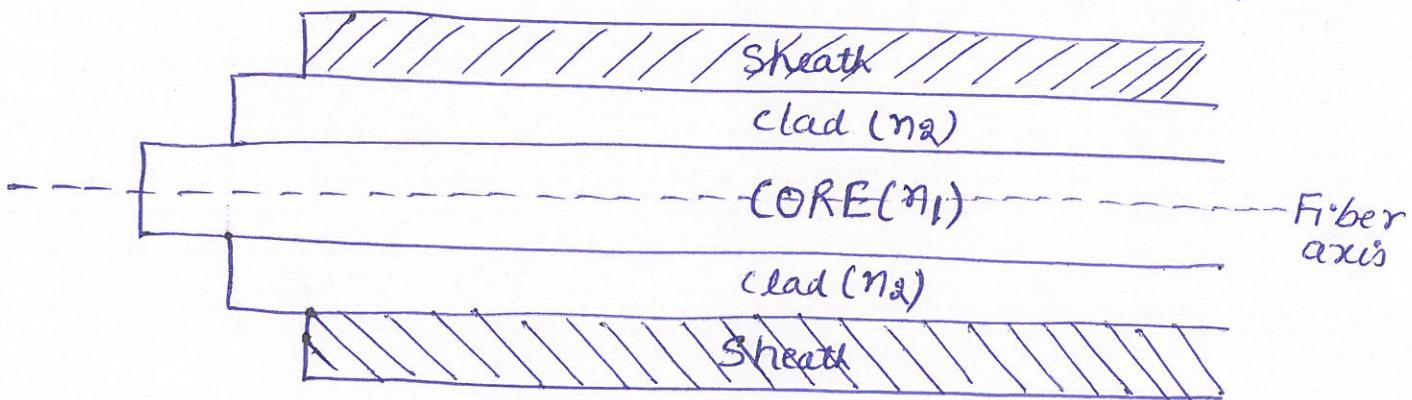
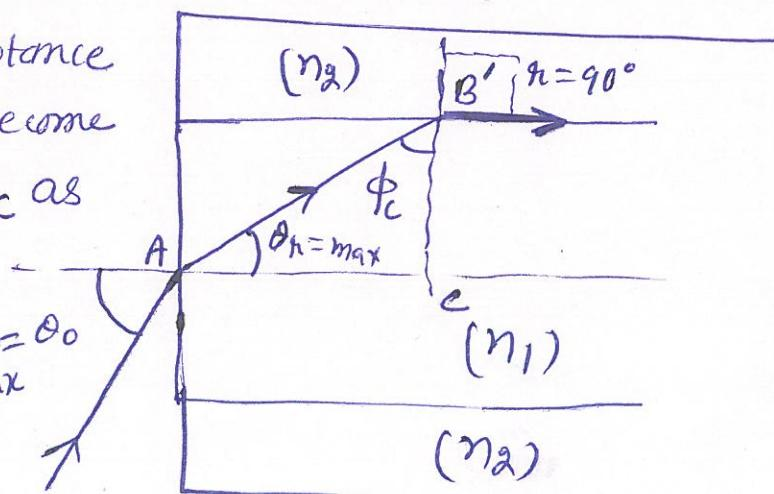

Fig. 1
Fig 2.
to another! The basic diagram of an optical fiber is shown in figure 1 above. It contains three co-axial cylindrical layers known as core, clad and sheath (or buffer jacket).
Consider an arbitrary ray of light make angle θ_i with axis of optical fiber, at input as shown in Fig 1. On entering the
Since ray of light shown in fig 1. arbitrary, therefore by increasing its value, we may reach maximum value of θ_{i1} denoted by symbol θ_{i1} , called acceptance angle, for which ϕ will become minimum, that is ϕ_c as shown in fig 2.
In Fig. 1. shown here, three rays of light are entering in optical fiber such that all are parallel to each other. All these three rays travel along ~~parallel~~ identical paths,
In the previous article, fiber shown in fig.1 is a SMF, because all three rays of light are entering in fiber at same angle with respect to axis. In general number of rays in SMF can be infinitely large, but all of these will enter in fiber as a beam of parallel rays.
In fig.2. of previous article, two modes of light are propagating because there are two distinct angles, at which rays of light are entering in the fiber. Thus fiber shown in this figure is MMF. Note that in MMF, the total number of modes can be very large instead of just two as shown in fig.2.
total number of distinct angles made by rays of light with axis at the input of fiber. It is also clear from fig. 1 & fig. 2. of previous article that chances of interference between light rays (waves actually) during propagation are very ~~to~~ large in MMF. During interference, the information being carried out by these light waves may be lost or may get distorted. Larger is the distance travelled in fiber, more will be chances of loss of ~~int~~ information due to interference.
Figure 1. Shown below gives variation of refractive index of fiber as a function of distance (r) from the axis of fiber. Such a graph is called index profile of fibers.
6. Since speed of all light rays is same (because of single frequency of carrier) and path length of rays is different for different angles/paths, therefore different rays of light take different time ($\therefore \text{time} = \frac{\text{distance}}{\text{speed}}$ or time \propto distance as speed = constant) to come out of fiber, although all these rays have entered in fiber at the same time. Since rays are carrying identical information (for all rays in figure given on page 13, we have information of letter A, followed by B and then C), therefore at the output all information packets belonging to a unique information will not be received at single instant of time, rather it will spread on small time interval (denoted by T_{int} or Δt_{int}), which is called intermodal dispersion delay or transition time dispersion delay (for example according to fig 2 on page 13 of notes, first ray to reach output will be (0), followed by rays (1) & (2) and information packet of A will be received when ray (0) reaches at output at time $t_0=0$, and information of A again reach at time t_1 when ray 2 reaches output, followed by another